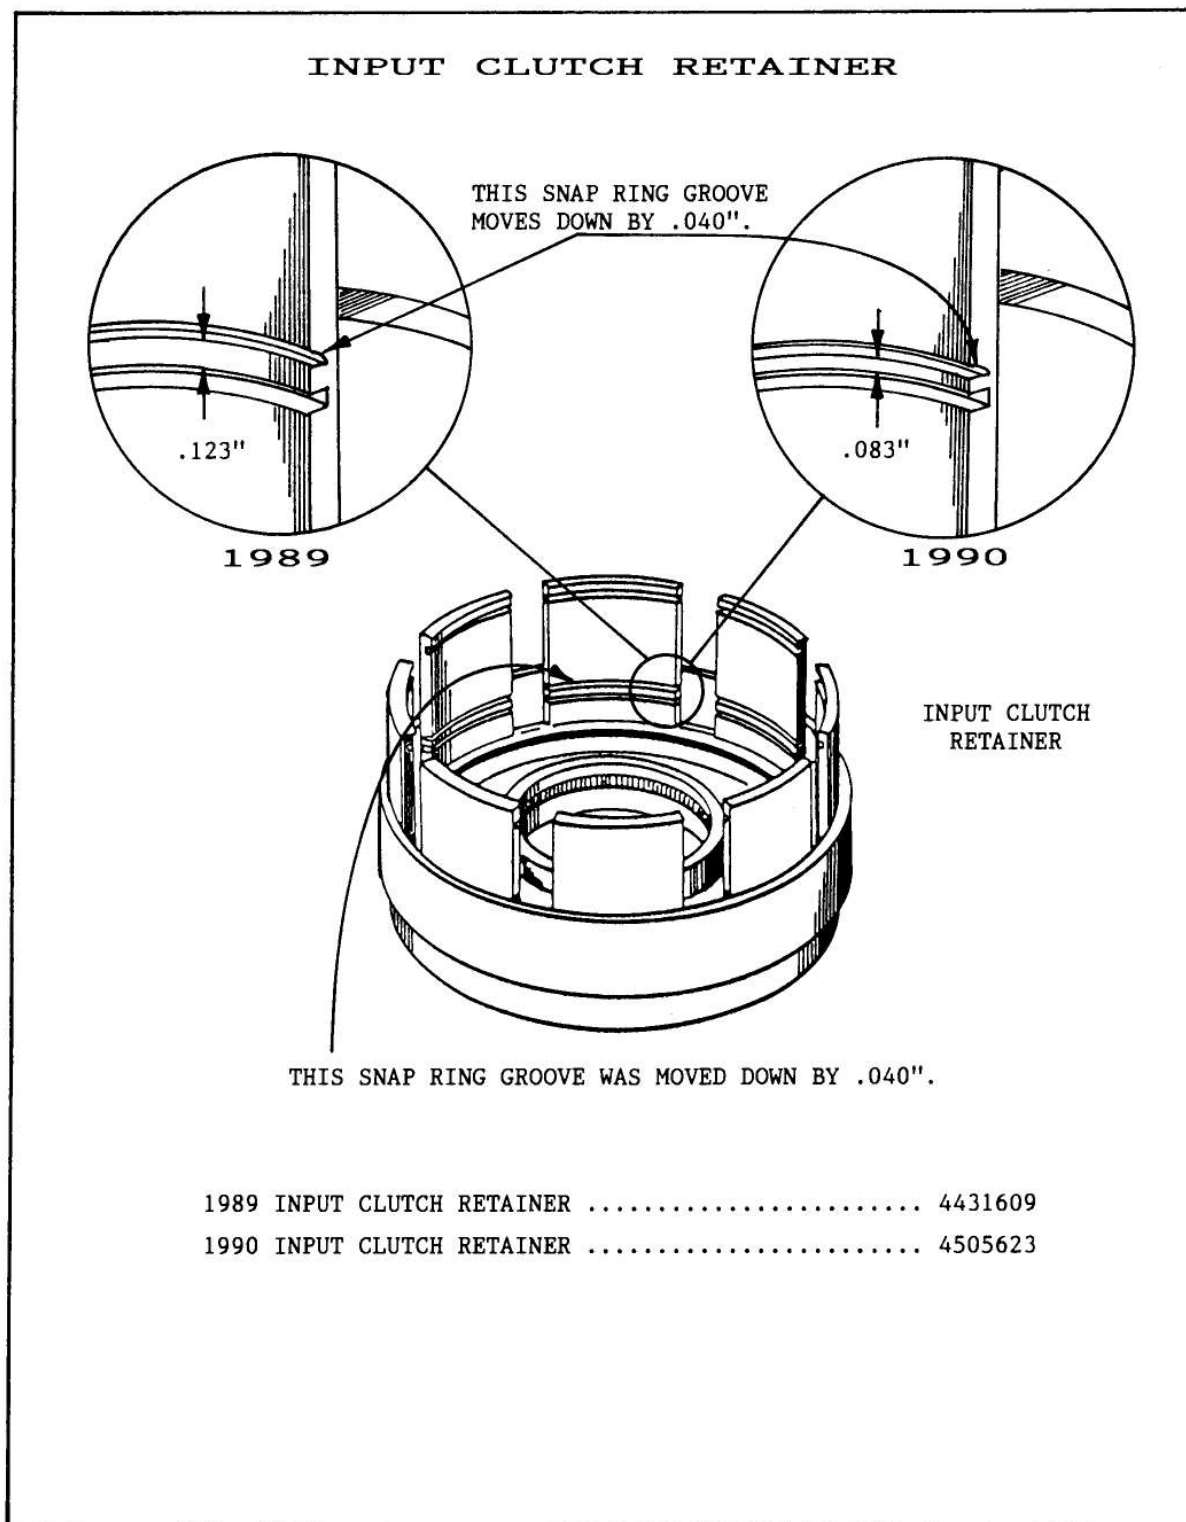
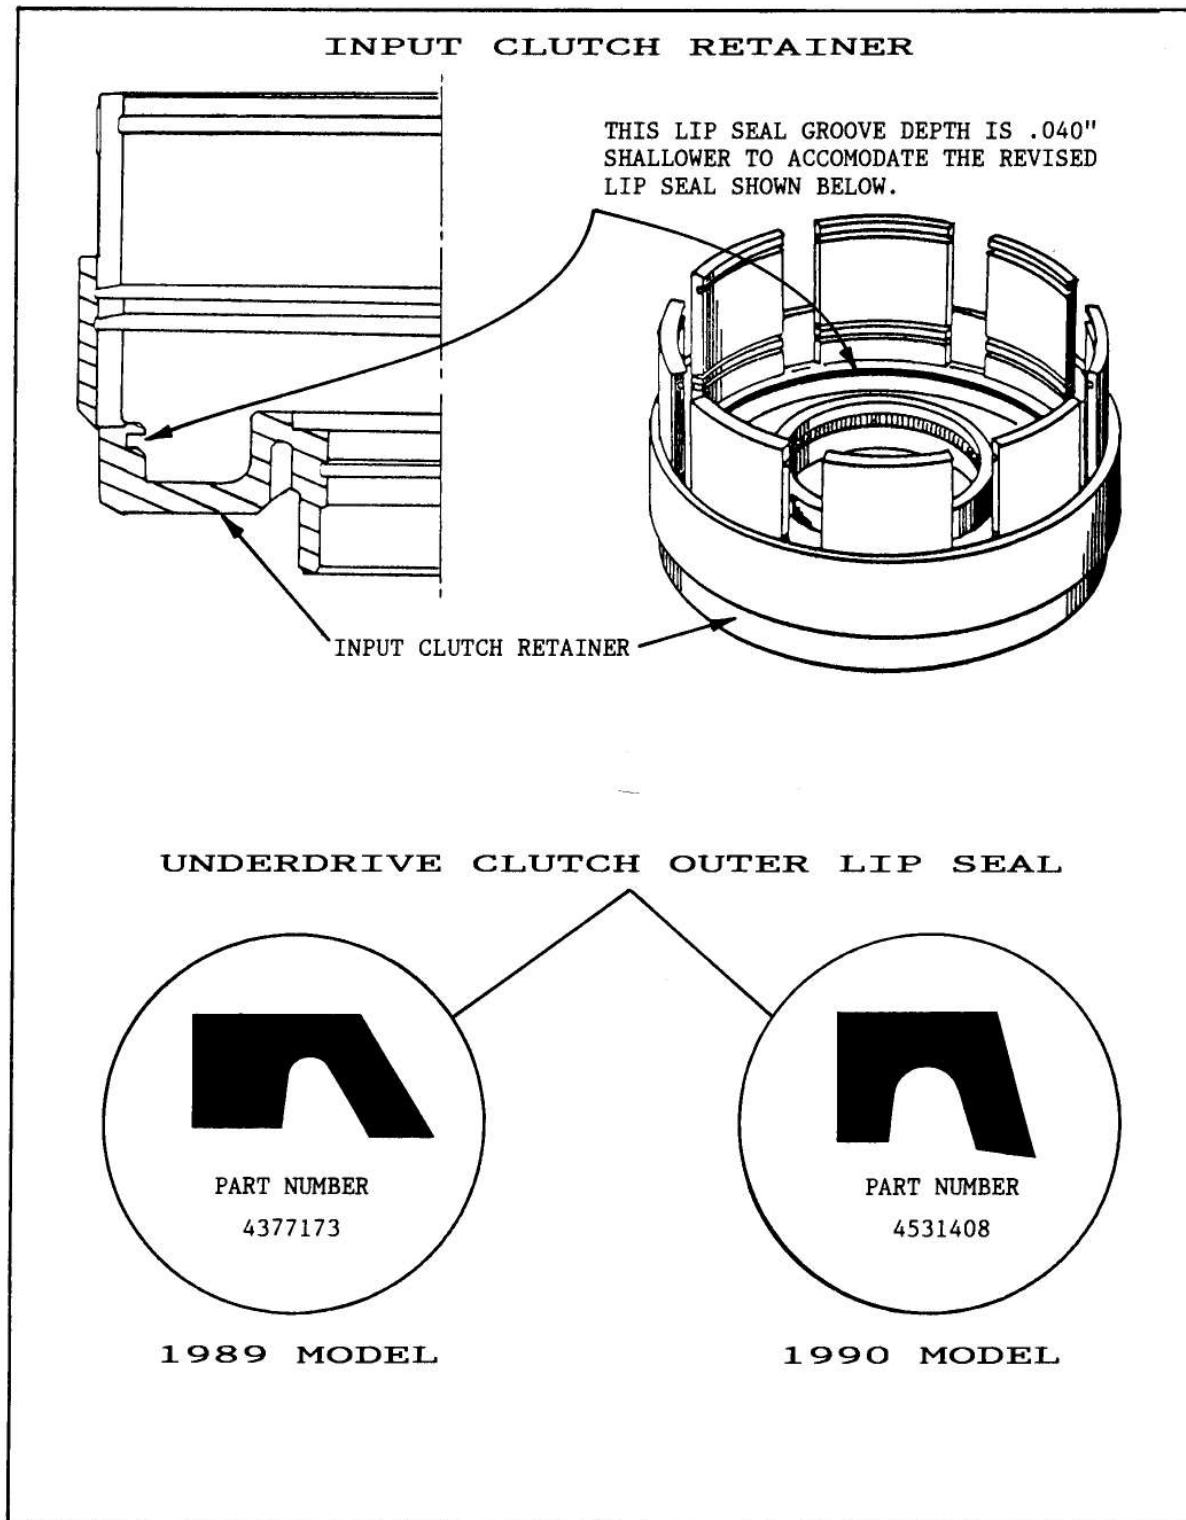

Figure 15
Figure 16
- (4) INPUT CLUTCH RETAINER - The underdrive/overdrive reaction plate tapered snap ring groove was moved "Down" by .040" (Can be Detected Visually) to accomodate the thinner underdrive/overdrive reaction plates (Figure 15). Another change that occurred at the same time is the underdrive clutch outer lip seal groove depth is .040" "Shallower" to accomodate a new underdrive clutch outer lip seal (See Figure 16).
- (5) UNDERDRIVE/OVERDRIVE TAPERED SNAP RING - The thickness of this snap ring was reduced by .010". The 1990 snap ring is easily identified, as they will be either Green, or White, in color. The previous 1989 snap rings were Blue in color. They WILL NOT interchange.
- (6) UNDERDRIVE CLUTCH OUTER LIP SEAL - The lip seal cross section has been reduced by .040" (Smaller in Overall Diameter) to accomodate the change in the depth of the groove in the input clutch retainer (See Figure 16). The OEM part number is printed on the seals for identification. The 1989 (Large) is 4377173, and the 1990 (Small) is 4531408. This will confirm that you have the proper seal for this location (See Figure 16).